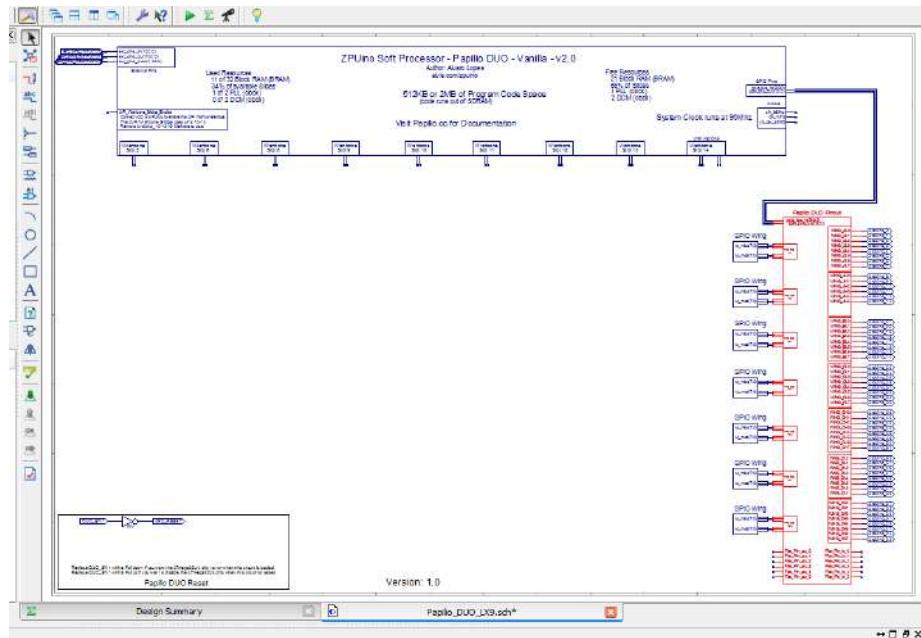

Figure 6-17 Beginning schematic with DUO pinout block
2. Next, we need to delete the Papilio DUO pinout block and replace it with the Papilio DUO Computing Shield pinout block. Be sure to delete all the GPIO blocks too, as you won't be needing those. You can find the symbol for the Computing Shield in the DesignLab\libraries\Papilio_Hardware> library when you click the Add Symbol icon in the left toolbar. Figure 6-17 shows the starting schematic.